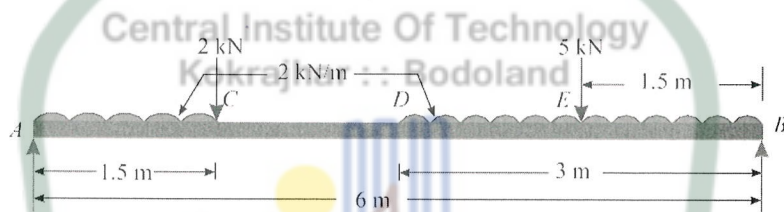

Fig.4
- b) Draw SFD & BMD for the simply supported beam loaded as shown in fig. 4. Show all the calculations in detail. 10